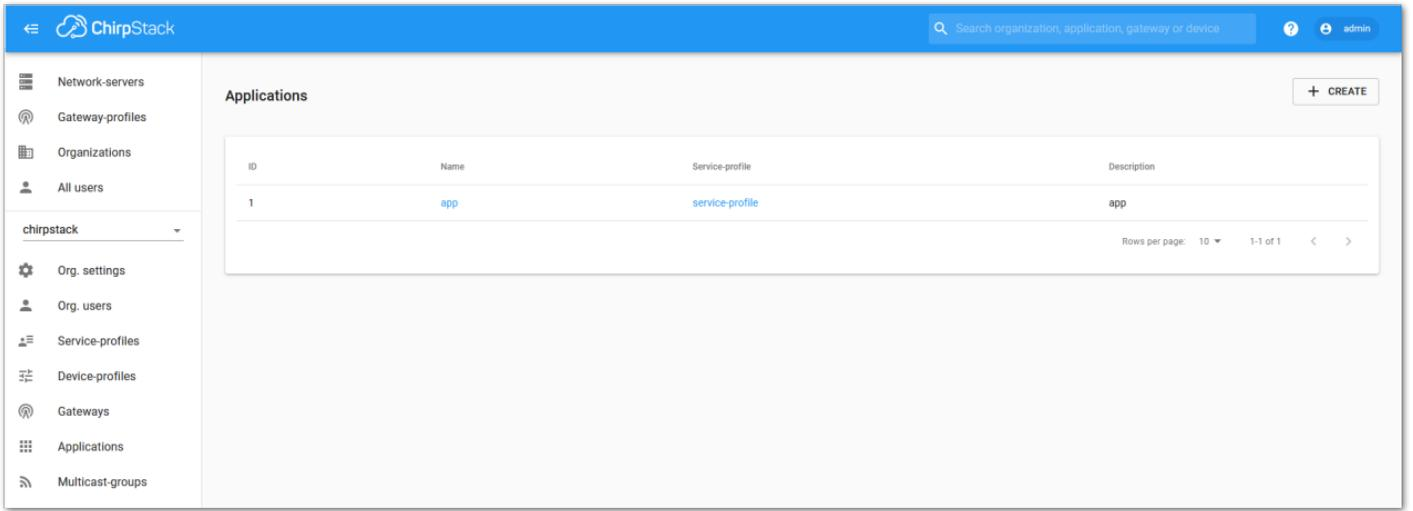

Figure 71: Application section
2. Go to the Application section, as shown in **Figure 71**.